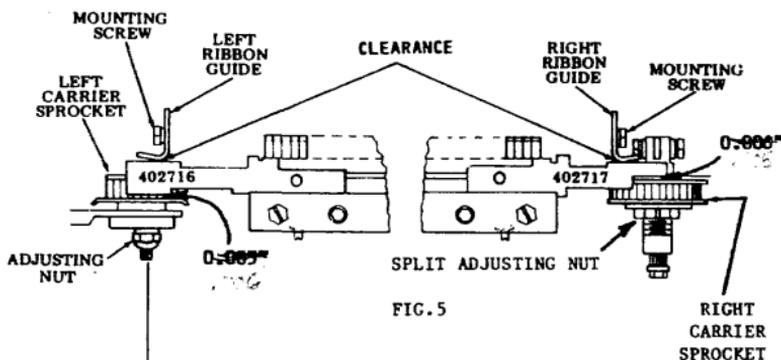

FIG. 5
To perform the CARRIER SPROCKET, RIBBON GUIDE, and PAPER POSITIONER ROLLER adjustments, turn the printer A-C power off, and remove the paper and ribbon. Insert gauges 402716 and 402717 in the left and right carrier track positions respectively as shown in Figures 5 and 6.
LEFT CARRIER SPROCKET ADJUSTMENT (Fig.5)
- Position the finger lever of the sprocket hub parallel to the track assembly (Fig.5).
RIGHT CARRIER SPROCKET ADJUSTMENT (Fig.5)
LEFT AND RIGHT RIBBON GUIDE ADJUSTMENTS (Fig.5)